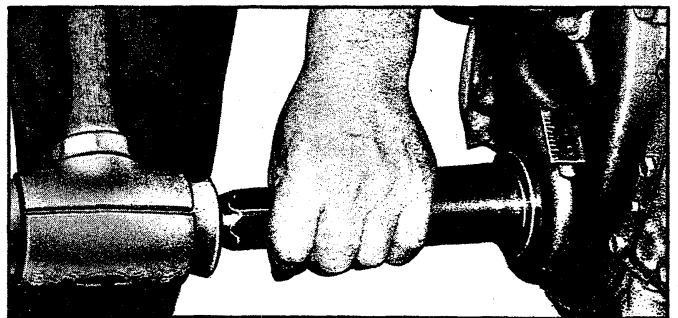
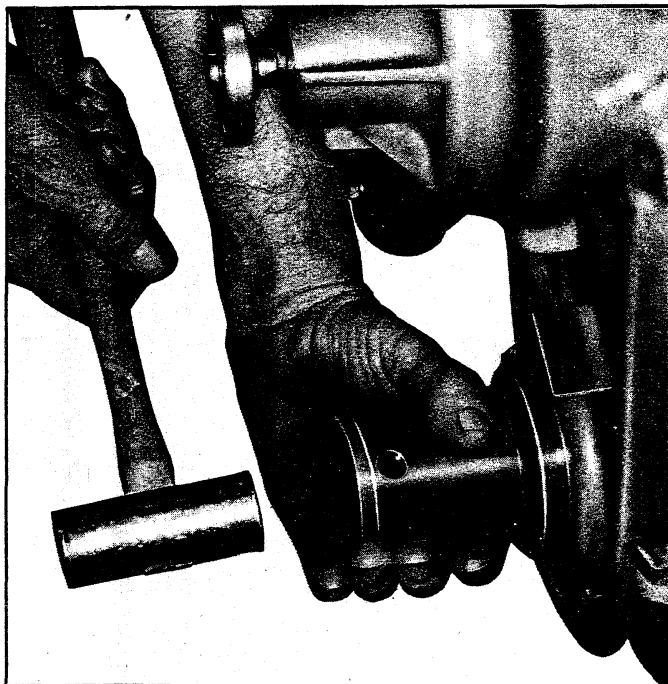

Fig. 18V - Installing Oil Seal (Cover Installed)
Fig. 19V - Installing Oil Seal (Cover Installed)
2. Install new seal so that open end of seal is toward the inside of cover and drive it into position with Tool J-8340 on 283, 327 and 350 cu. in. engines (fig. 18V) or Tool J-22102 on 396 and 427 cu. in. engines (fig. 19V).